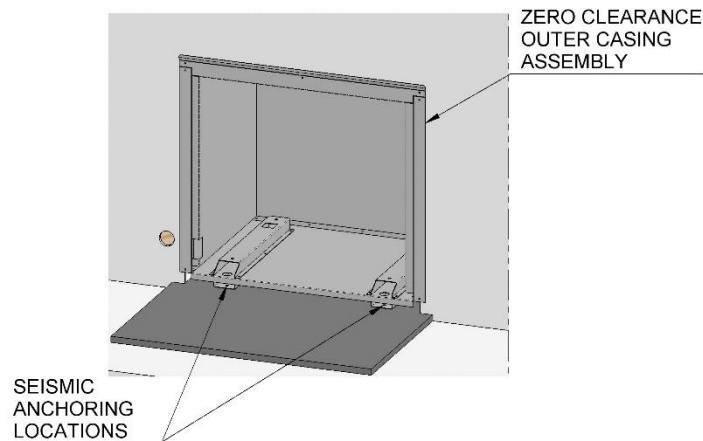

Fig. 9
- D1. Heater must be restrained from seismic movement (Fig. 9) as required by AS/NZS 2918:2001
- P3. Ensure the unit is securely fixed using sleeve anchors or similar at the locations shown in the images on this page. (Fig. 9)